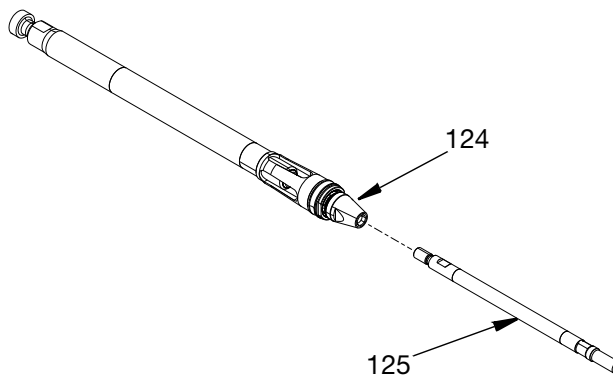

FIG. 24
1. Clean any residual thread locker from the lower shaft assembly (125) and reapply thread locker to threads. Thread the lower shaft assembly into the outlet check valve seat (124). Torque to 36 Ft-lb (48.81 N•m). See FIG. 24.